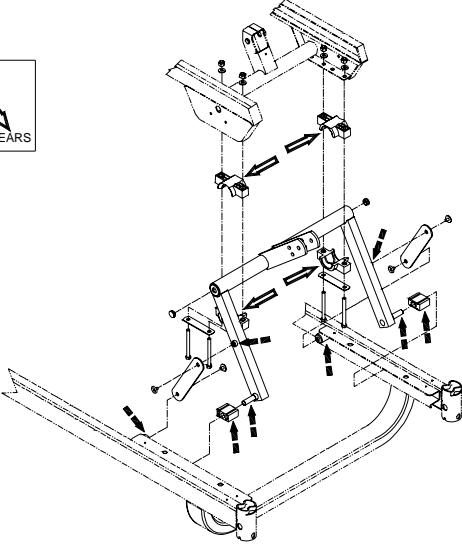

Figure 2.2A
- ___ The Hi-Lo lever nylon sliders and their shaft (see fig. 2.2A, page 11). Check that grease is still present along the course of the sliders (inner bottom and side surfaces of the rail).
- ___ The lower mounting points (see fig. 2.2A, page 11) of the Hi-Lo system stabilizer.
- ___ The inside of the Hi-Lo lever molded bearings (see fig. 2.2A, page 11).